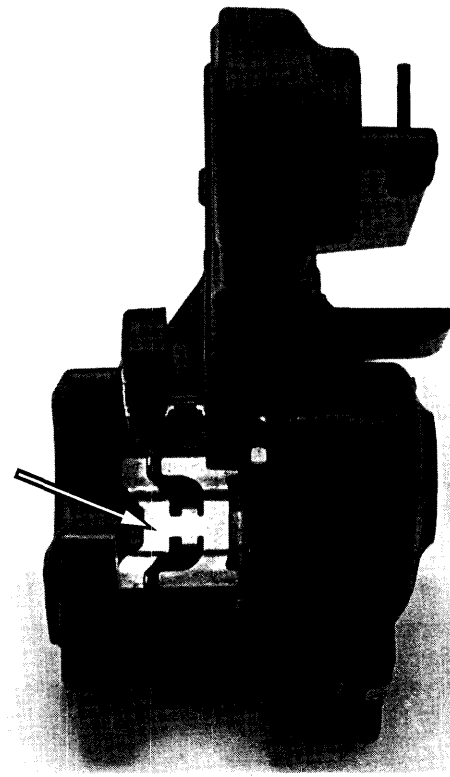

Figure 2-104. Rear Caliper Pad Spring
5. See Figure 2-104. Place caliper and mounting bracket assembly on workbench as shown. Install pad spring in channel. Press firmly into place.
- *Pad spring orientation must match Figure 2-104.*